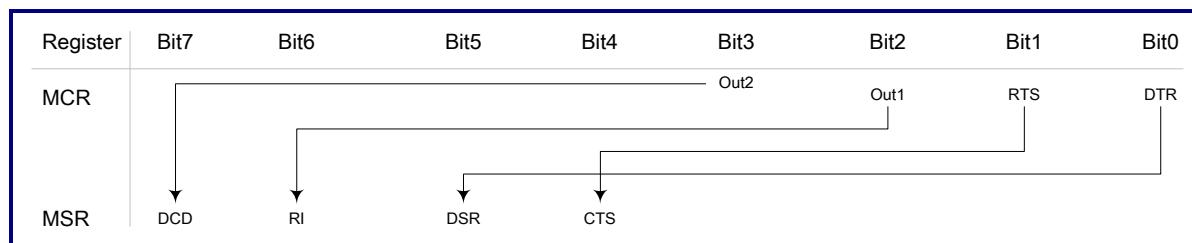

Figure 13-2. Interconnection between MCR and MSR in Loopback Mode
- Four modem control inputs are internally connected to two modem control outputs plus the general-purpose outputs. In such a way, io\_irda\_ncts will be internally controlled by io\_irda\_nrts, io\_irda\_ndsr is controlled by io\_irda\_ndtr, io\_irda\_nri is controlled by io\_irda\_nout1, and io\_irda\_ndcd is controlled by io\_irda\_nout2. That is to say; there is a non-ordered correspondence between four least significant bits of MCR and four most significant bits of MSR. Please refer to Figure 13-2 for connections. The modem control output pins are forced to the inactive state (High).